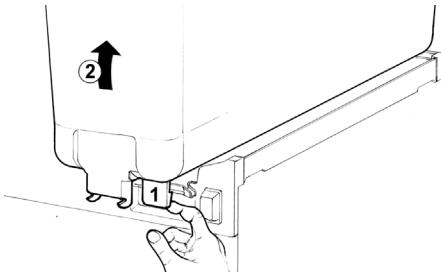

figure 1
- 2 Remove the empty bowl by lifting the pulling lever (1) and its **front side (faucet side)** up and off the bowl gasket (see figure 1).